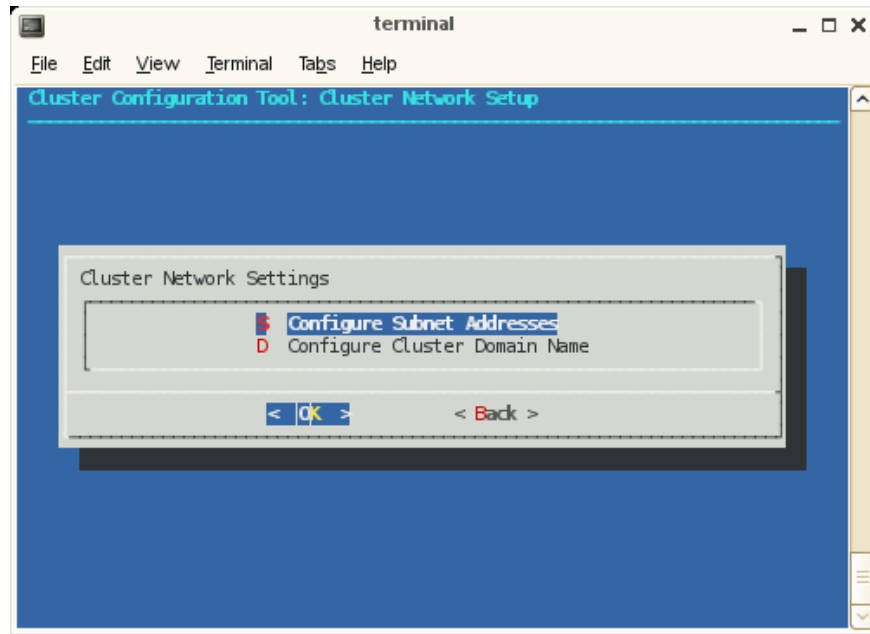

Figure 2-24 Cluster Network Setup Screen
10. After choosing the **Network Settings** option, the **Cluster Network Setup** screen appears, as shown in Figure 2-24 on page 65.